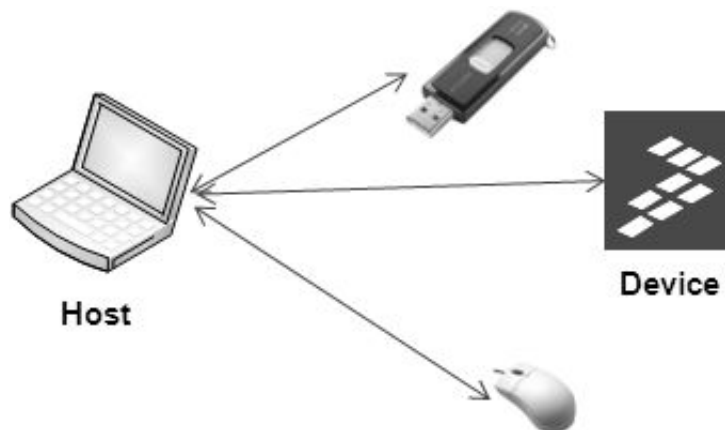

Figure 9-1. USB Device mode
- **Device mode:** The USB is configured to respond to external host requests. In this mode, the MCU has no control of the USB bus. All the transfers are started by the host controller that is also providing the VBUS voltage. Figure 9-1 shows the operation of USB in Device mode.